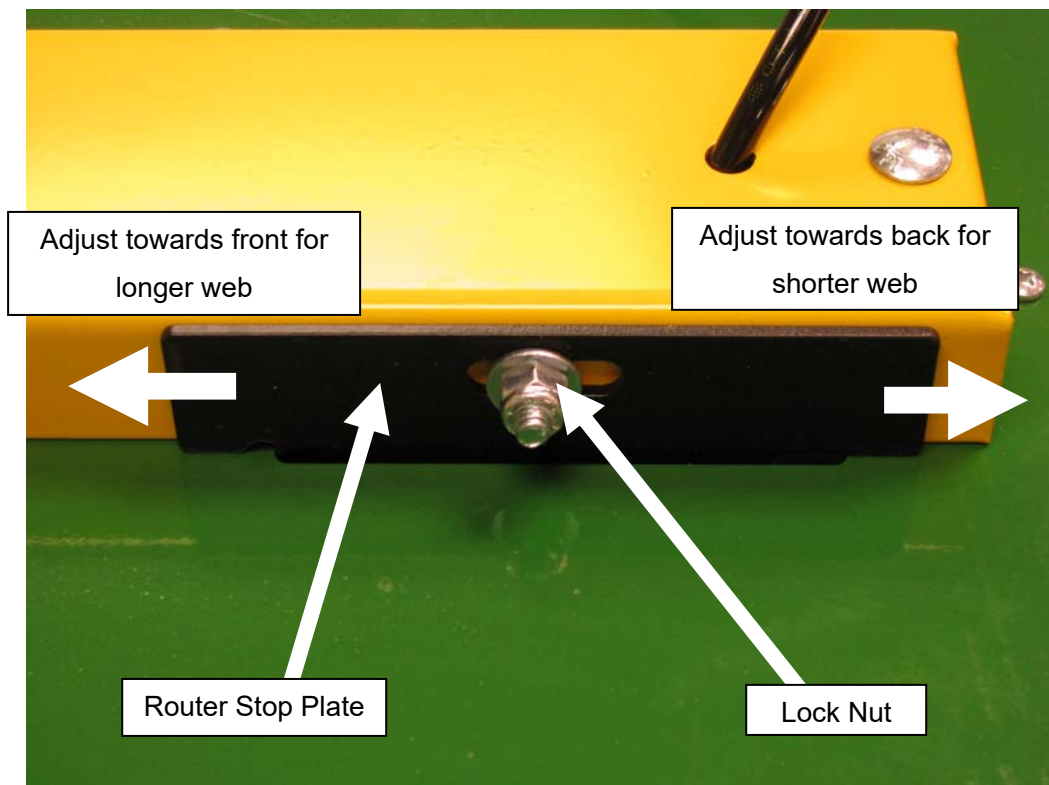

Fig 9
2. It is held in place by a 1/4" lock nut. **See Fig 9.**